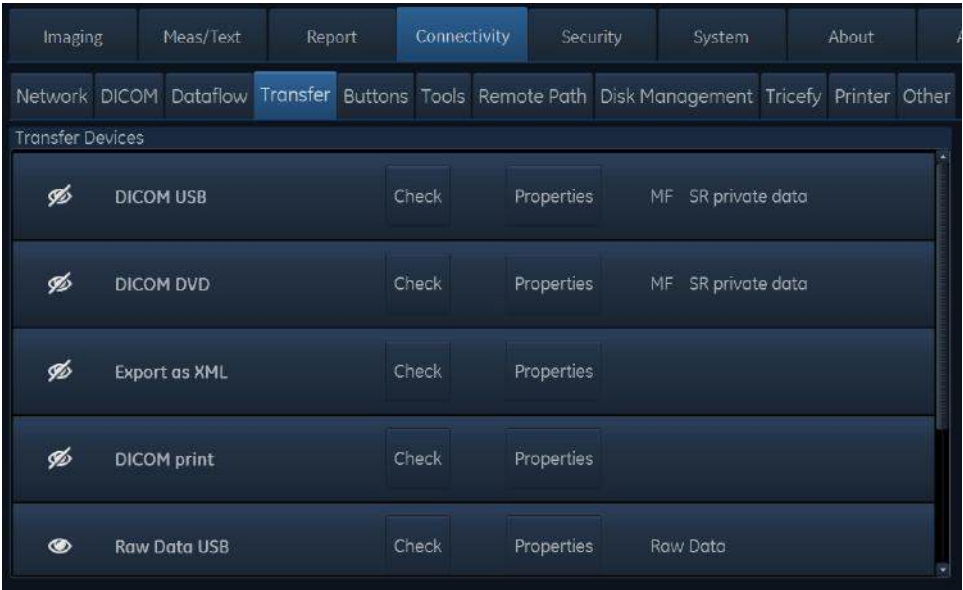

Figure 10-85. The Transfer sheet (Export to XML)
- 2. Select the **Connectivity** category and **Transfer** subgroup. The *Transfer* sheet is displayed (Figure 10-85).